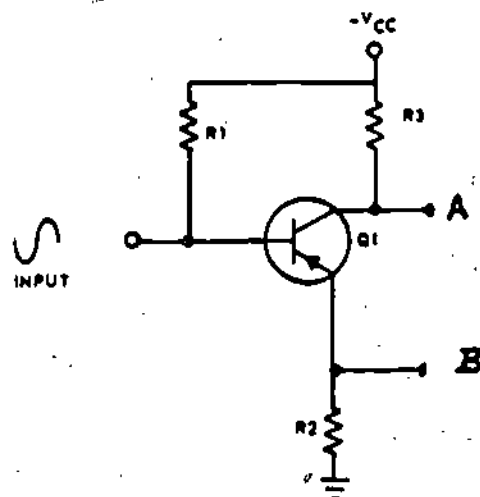

Figure 1
5. In the paraphase amplifier circuit in figure 1, select the correct DC current path.
5. The output signal of figure 1 is taken from
8. If resistors R2 and R3 equal each other in figure 1, the amplitude of the output signals at point A and point B will be _____.